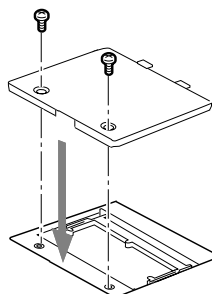

Figure 4-4. Replacing the Memory Compartment Cover
8. Replace the cover. (Figure 4-4)
5. Replace the cover. (Figure 4-4)